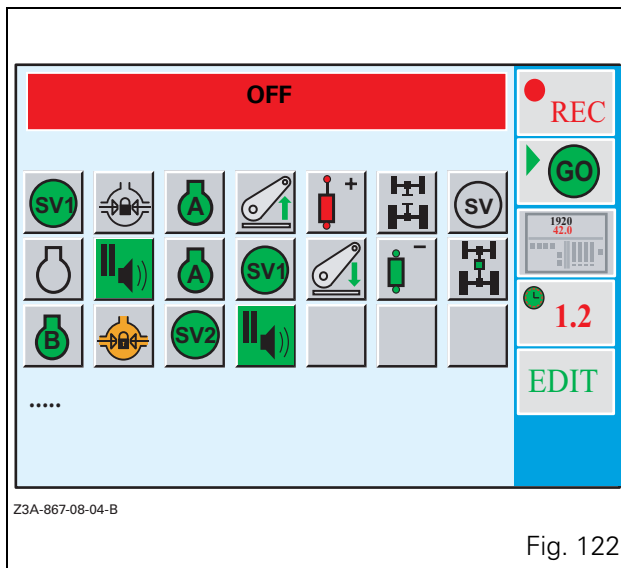

Fig. 122
- Validate either by pressing the encoder, or by pressing key $\ll_1$. The window (Fig. 122) is displayed with the changed icon.